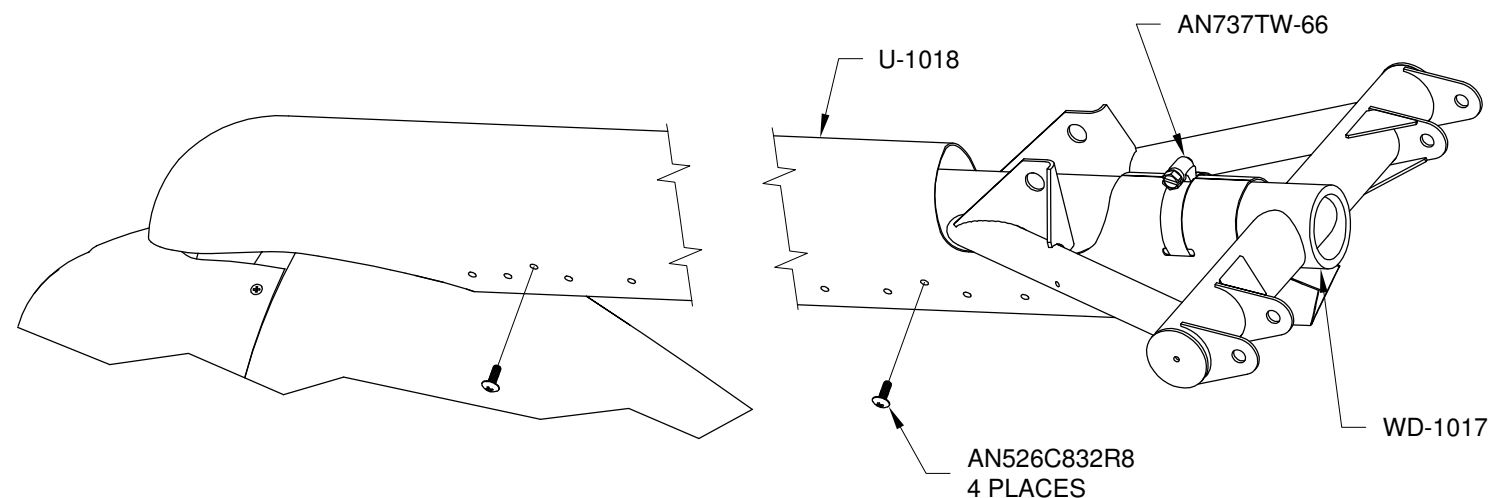

FIGURE 3: ATTACHING NOSE GEAR LEG FAIRING TO NOSE GEAR LEG ASSEMBLY
Step 3: Reinstall the U-1018 Nose Gear Leg Fairing onto the WD-1017 Nose Gear Leg Assembly using the hardware shown in Figure 3.